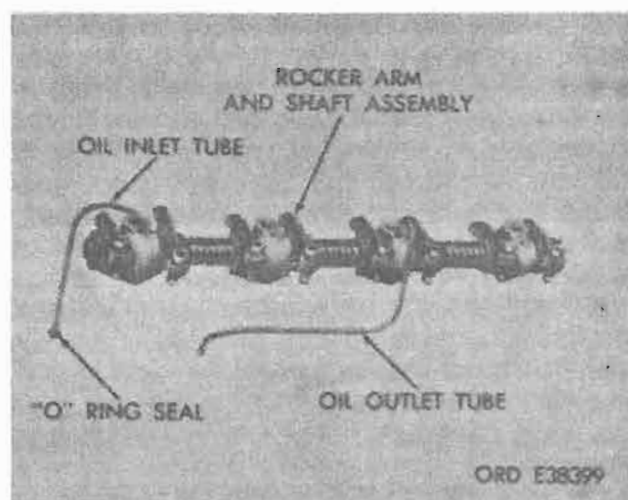

Figure 4-144. Rocker arm oil inlet and outlet tube.
a. *Remove Rocker Shaft Oil Inlet and Outlet Tube.* Remove oil inlet tube from rear valve rocker arm shaft support (fig. 4-144). Remove oil outlet tube from second valve rocker arm shaft support. Discard O-ring seal.
and toward rear of engine. Install a flat washer, spring washer, another flat washer, and a cotter pin on one end of shaft. Install rocker arms, support brackets, and springs in order shown. Complete assembly by installing remaining two flat washers with spring washer between. Install and spread cotter pin. Refer to figure 4-144.
d. *Install Rocker Shaft Oil Inlet and Outlet Tube.* Install oil inlet tube on rear valve rocker arm shaft support and install new O-ring seal on lower end of oil inlet tube. Install oil outlet tube on second valve rocker arm shaft support. Make sure end of oil inlet and outlet tube enters rocker arm shaft supports and extends into rocker shaft to maintain shaft location, and lubricate rocker arms (fig. 4-144).